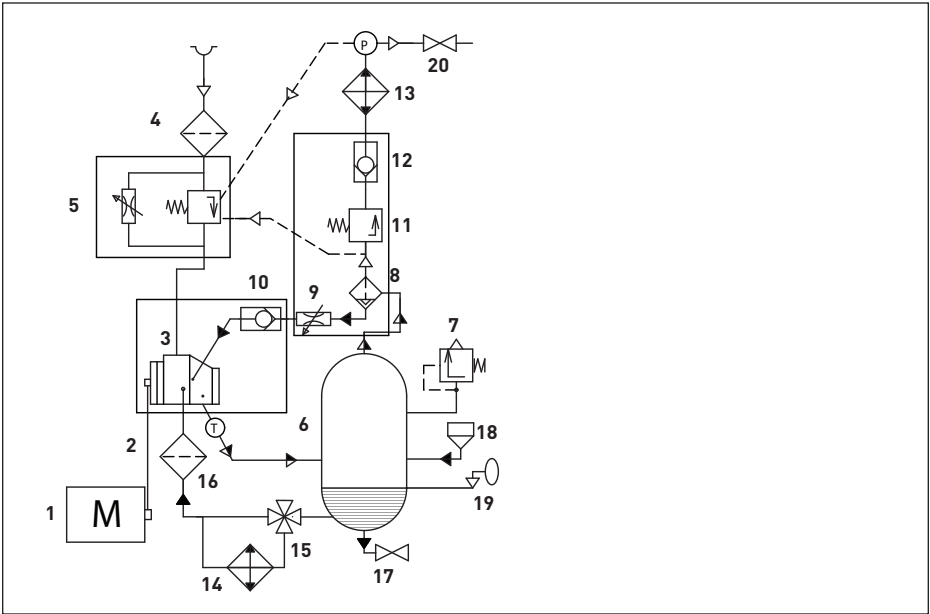
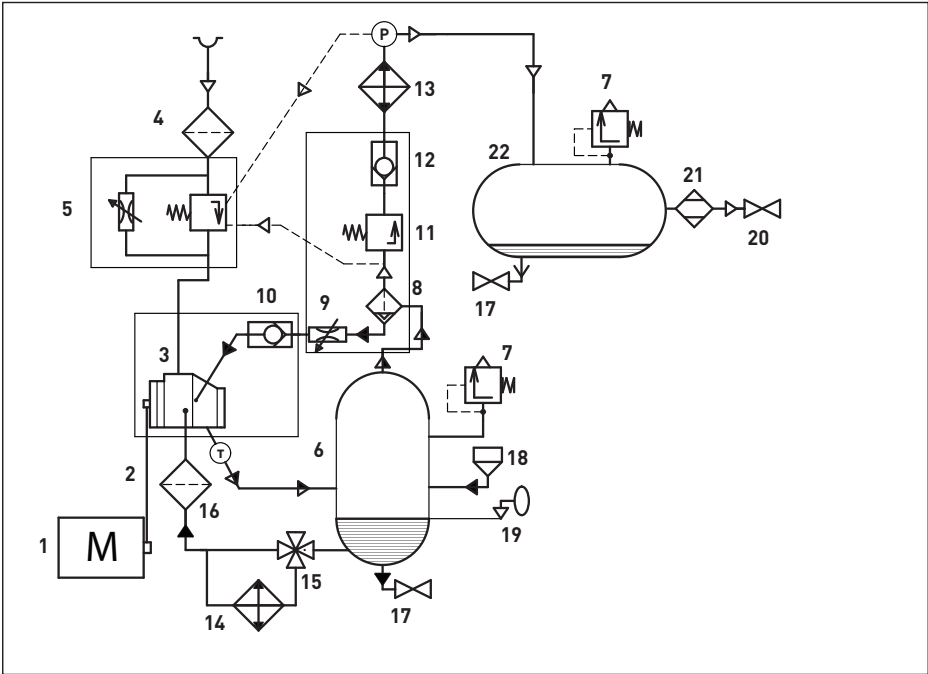

Fig. 2.3.1 Function diagram A/F..
Fig. 2.3.2 Function diagram AR/FR..,ARD/FRD..
2.4 Functional description (see Fig. 2.3.1 and Fig. 2.3.2)